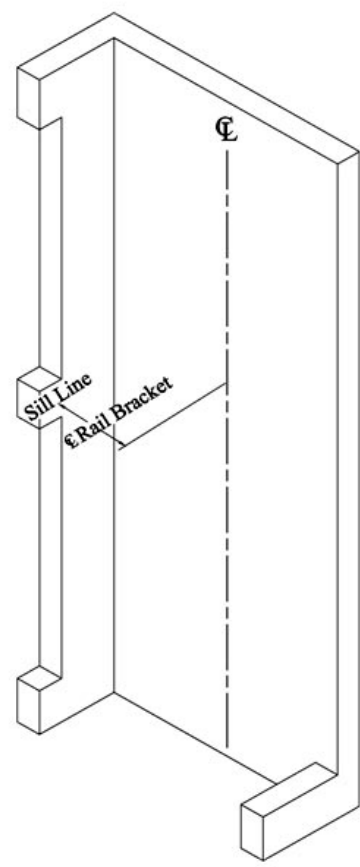

**Figure 7** Installation Drawing
- 2) Locate the centerline of the rails as referenced from the “sill line” on the **Installation Drawings** supplied with each elevator (Figure 7).